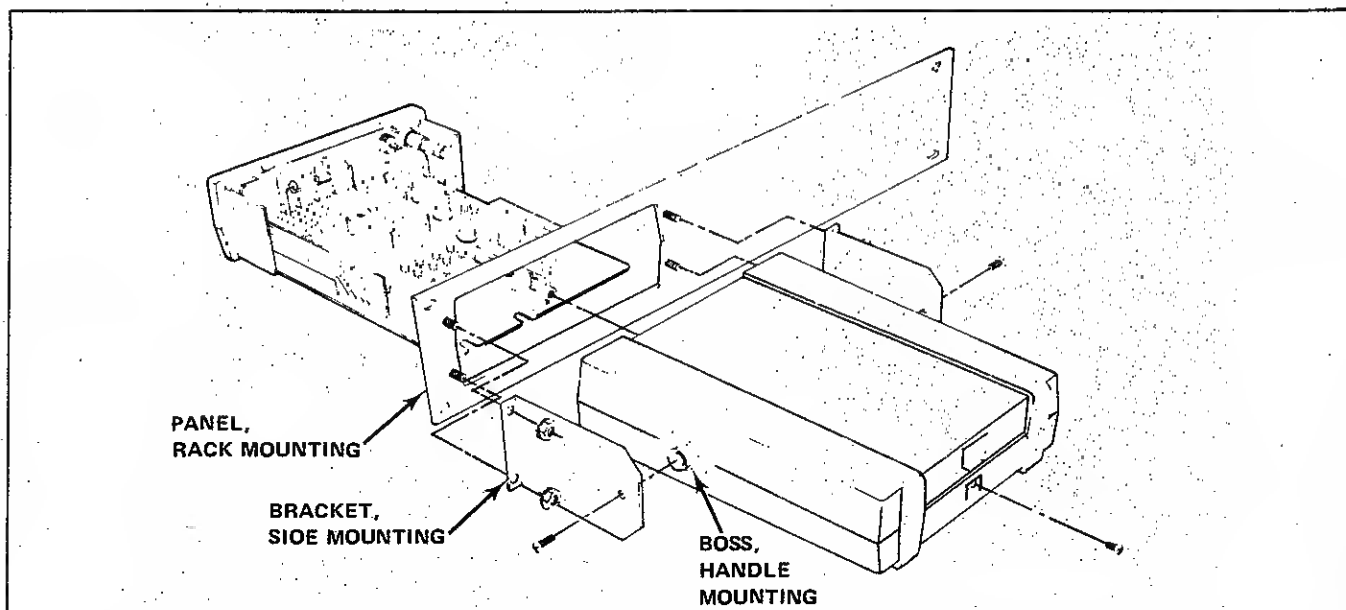

Figure 600-3. Rack Mounting Kit, Offset Mounting
3. Install the side mounting brackets, as shown in Figure 600-3, 600-4 and secure them to the mounting panel using the nuts provided.